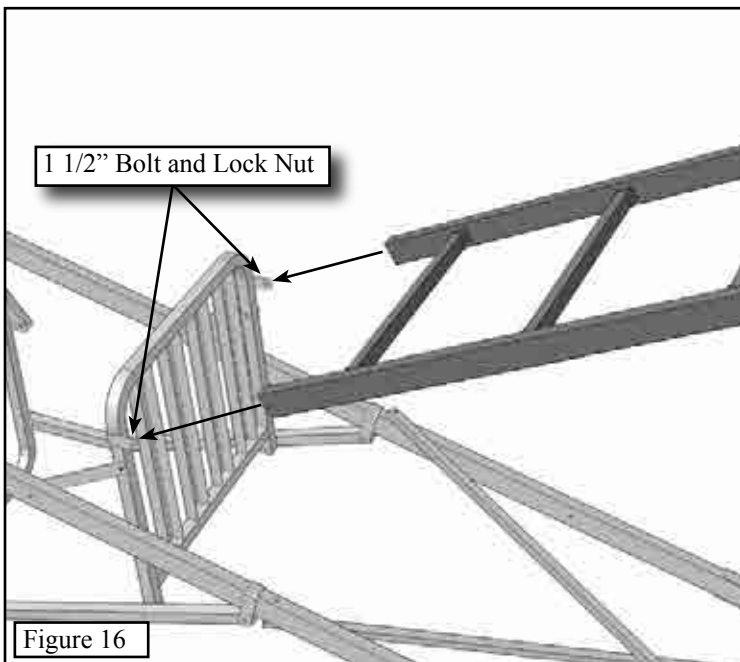

Figure 16
Step 1. Position the Ladder Assembly and the Support Assembly as shown in **Figure 16**. Slide the Ladder between the two mounting tabs and secure with two 1 1/2" bolts with lock nuts.